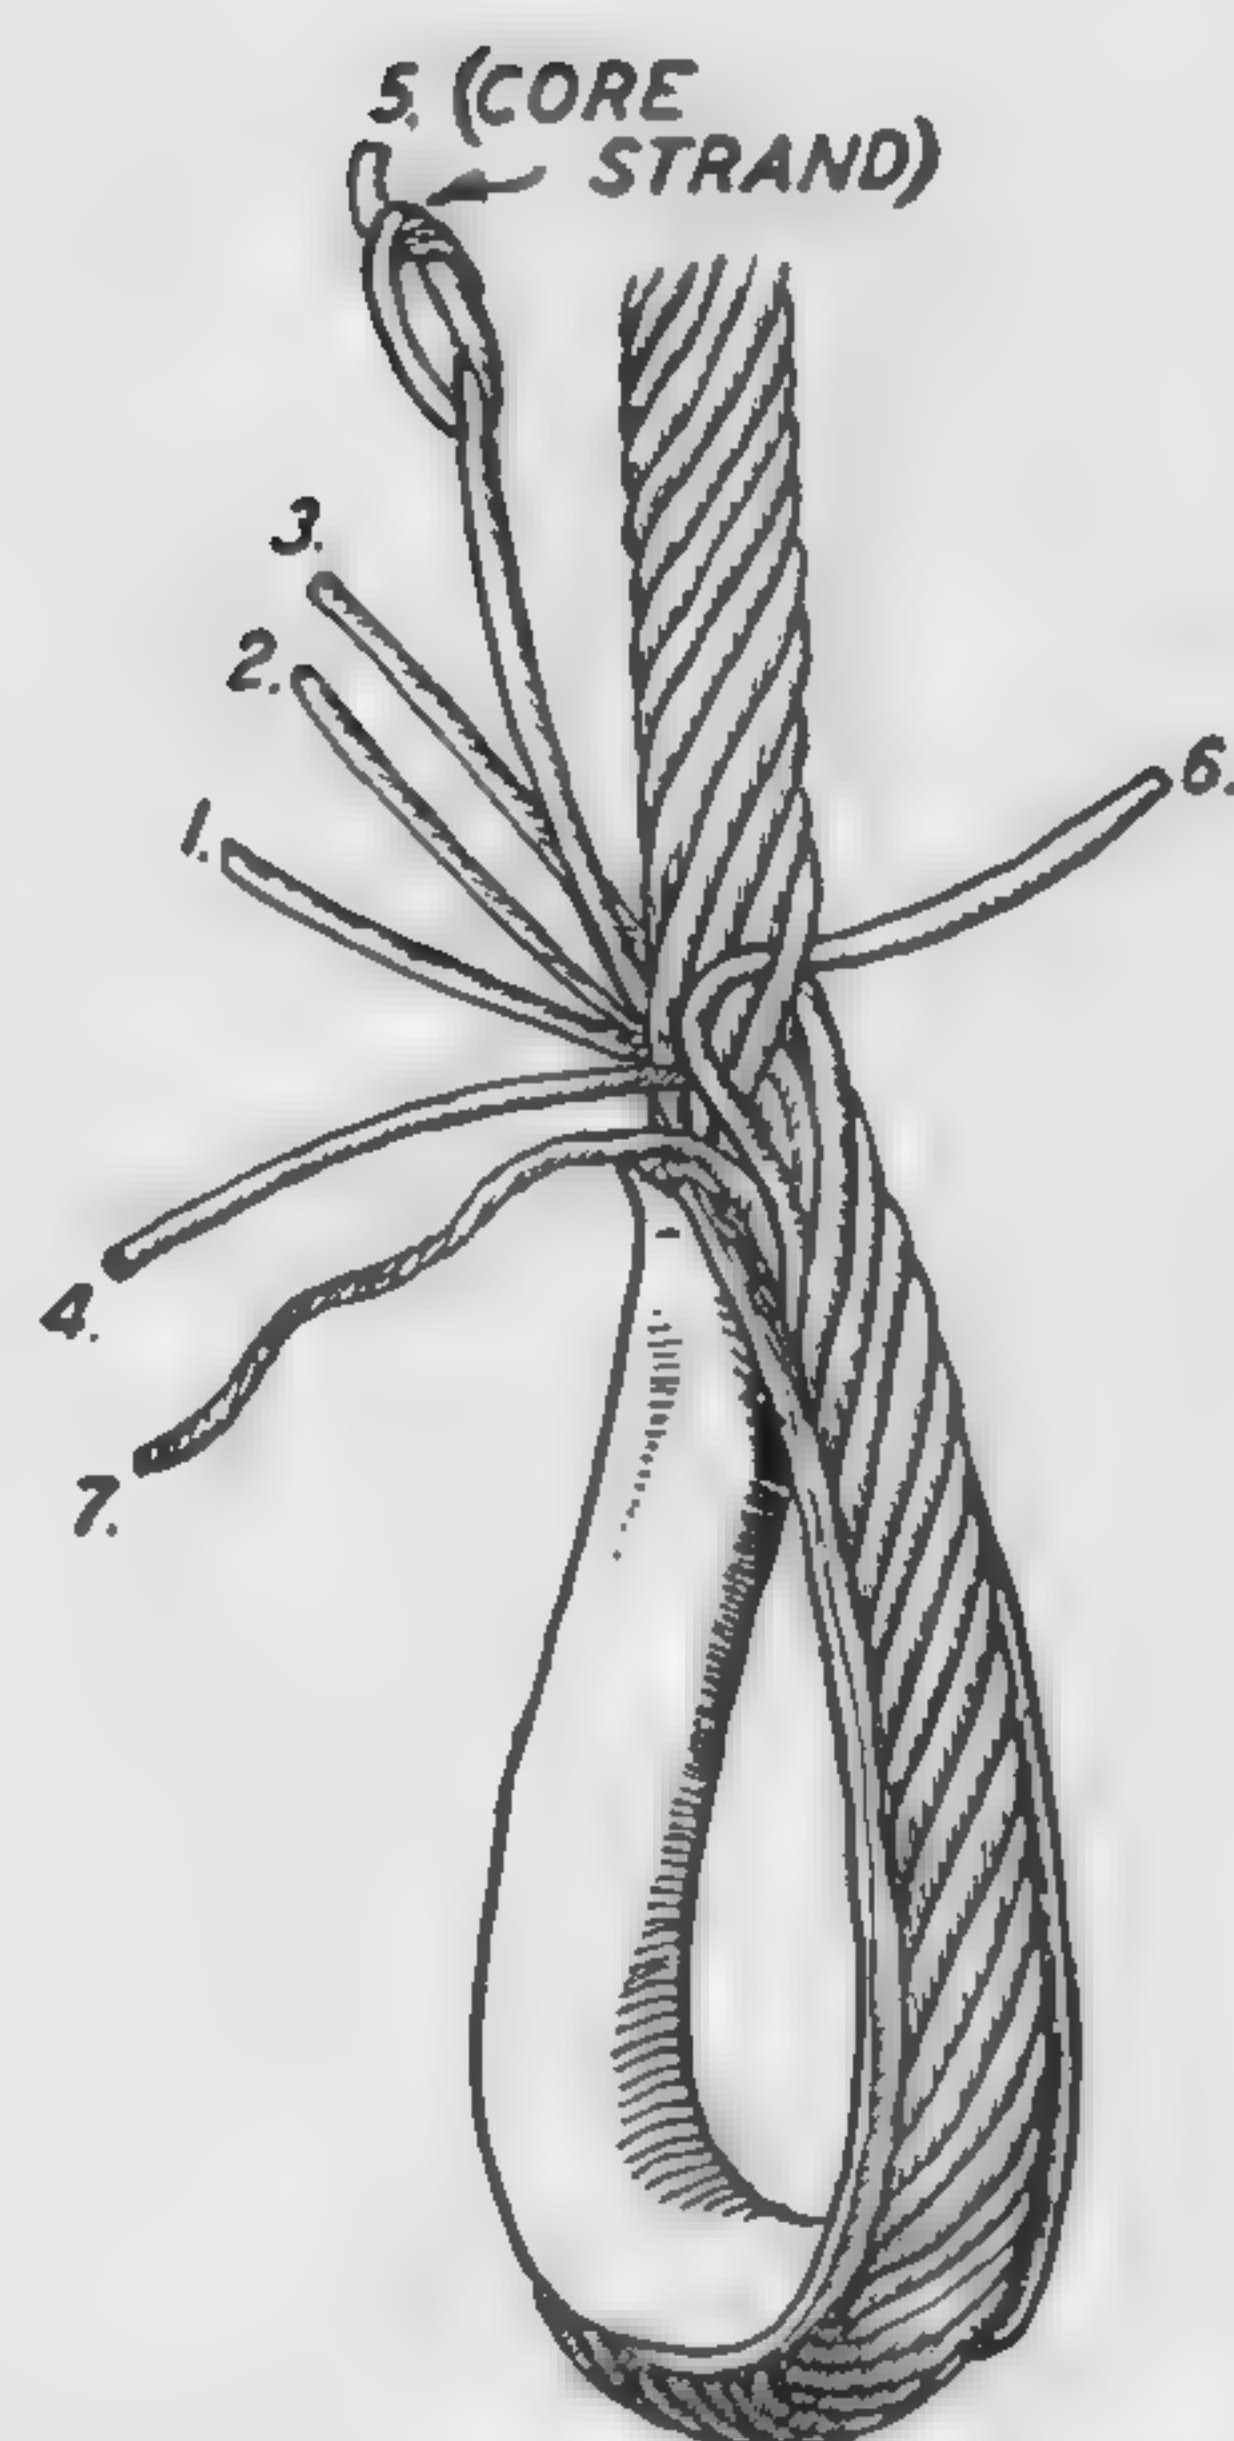

Fig. 18. Step 6 of the First Tuck
Step 6. There are two loose strands left, and one strand in the main cable. Take the next strand, which will be No. 6. Put the marline spike under the strand of the main cable, entering left to right, as in Fig. 18.